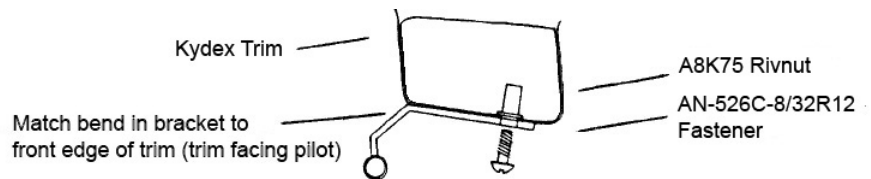

Figure B-5
- With the help of an assistant, hold the rail up to the front overhead so that the side view of the front bracket is as it appears in Figure B-5.